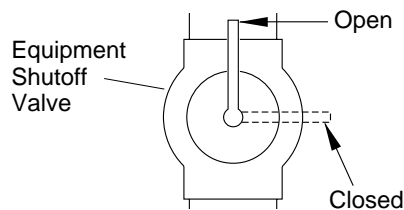

Figure 36 - Equipment Shutoff Valve
1. Close equipment shutoff valve (see Figure 36).
1. Open equipment shutoff valve (see Figure 36).